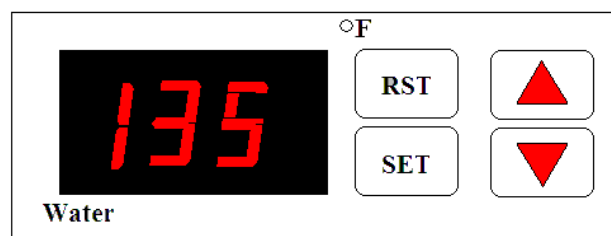

Figure 3
- Again, press the SET key. The current Set Point Temperature will now be displayed. Factory default setting is 135°F (57°C) as shown in Figure 3 below.